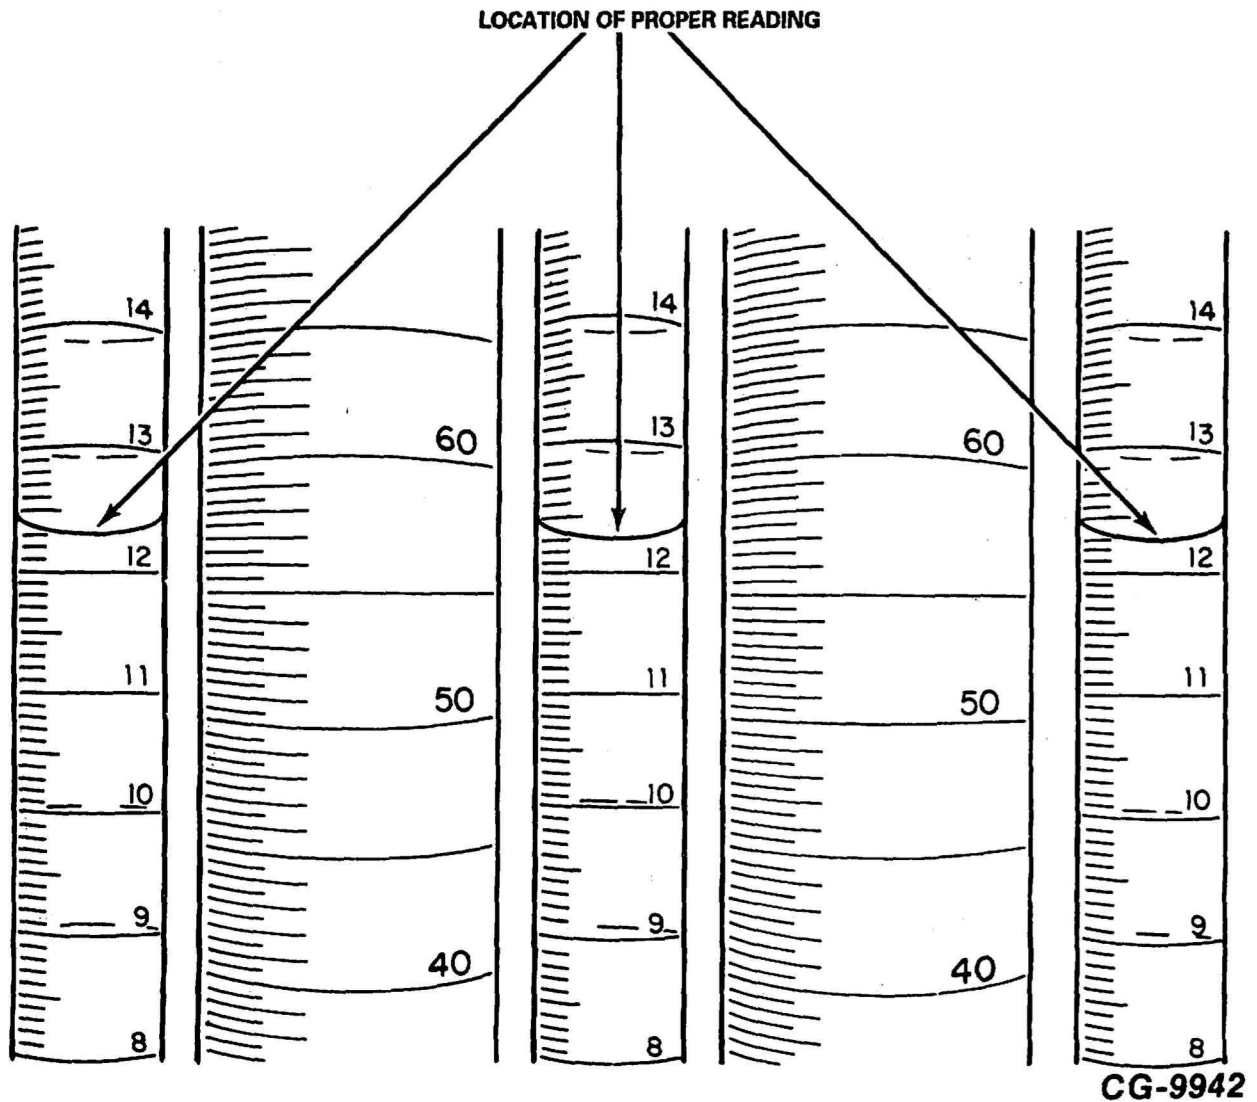

Figure 5.2. Reading Calibrating Oil Level in Graduates
2. Injection pump output is measured in graduates with cubic centimeter increments. Graduates correspond to engine cylinders. Eight (8) graduates are used to measure the flow of the Stanadyne injection pump used on the 8 cylinder 7.3 Liter Diesel Engine.
3. When reading calibrating oil levels in graduates, the top of the calibrating oil column will appear "cupped" with the center portion lower than each edge, this is called the meniscus. Read each graduate fuel column at the bottom of the meniscus ("cupped" center portion). (Figure 5.2)